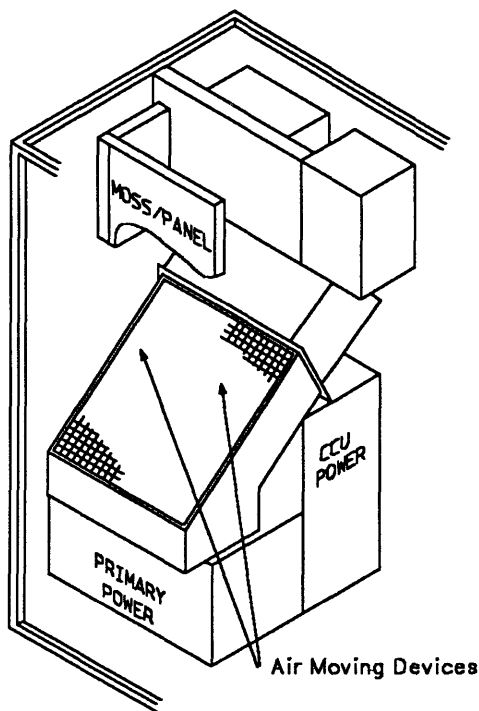
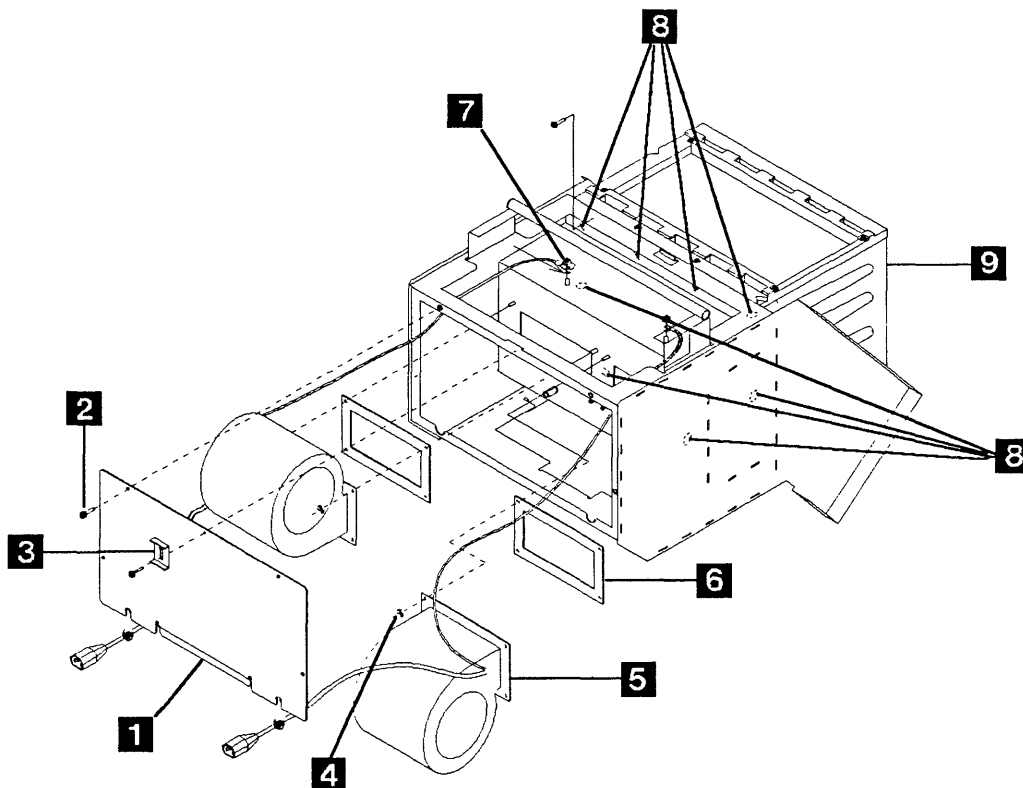

Figure 5-166. SAC Air Moving Devices Unit Location
Figure 5-167. Air Moving Device Unit Removal
9. Refer to Figure 5-166 and to Figure 5-167 and remove the air moving device(s) as follows:
2. Refer to Figure 5-167 on page 5-165 then do the following :